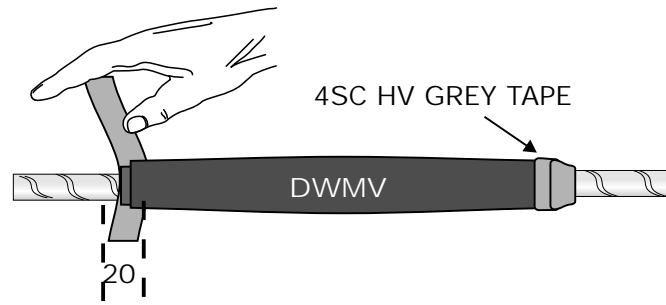

Fig 8
15. Take the two pieces of 4SC HV Grey Mastic Tape and apply whilst stretching to the ends of the DWMV Tubes and Copper Tape Screens (If present) by approx 10mm each as shown in Fig 8.